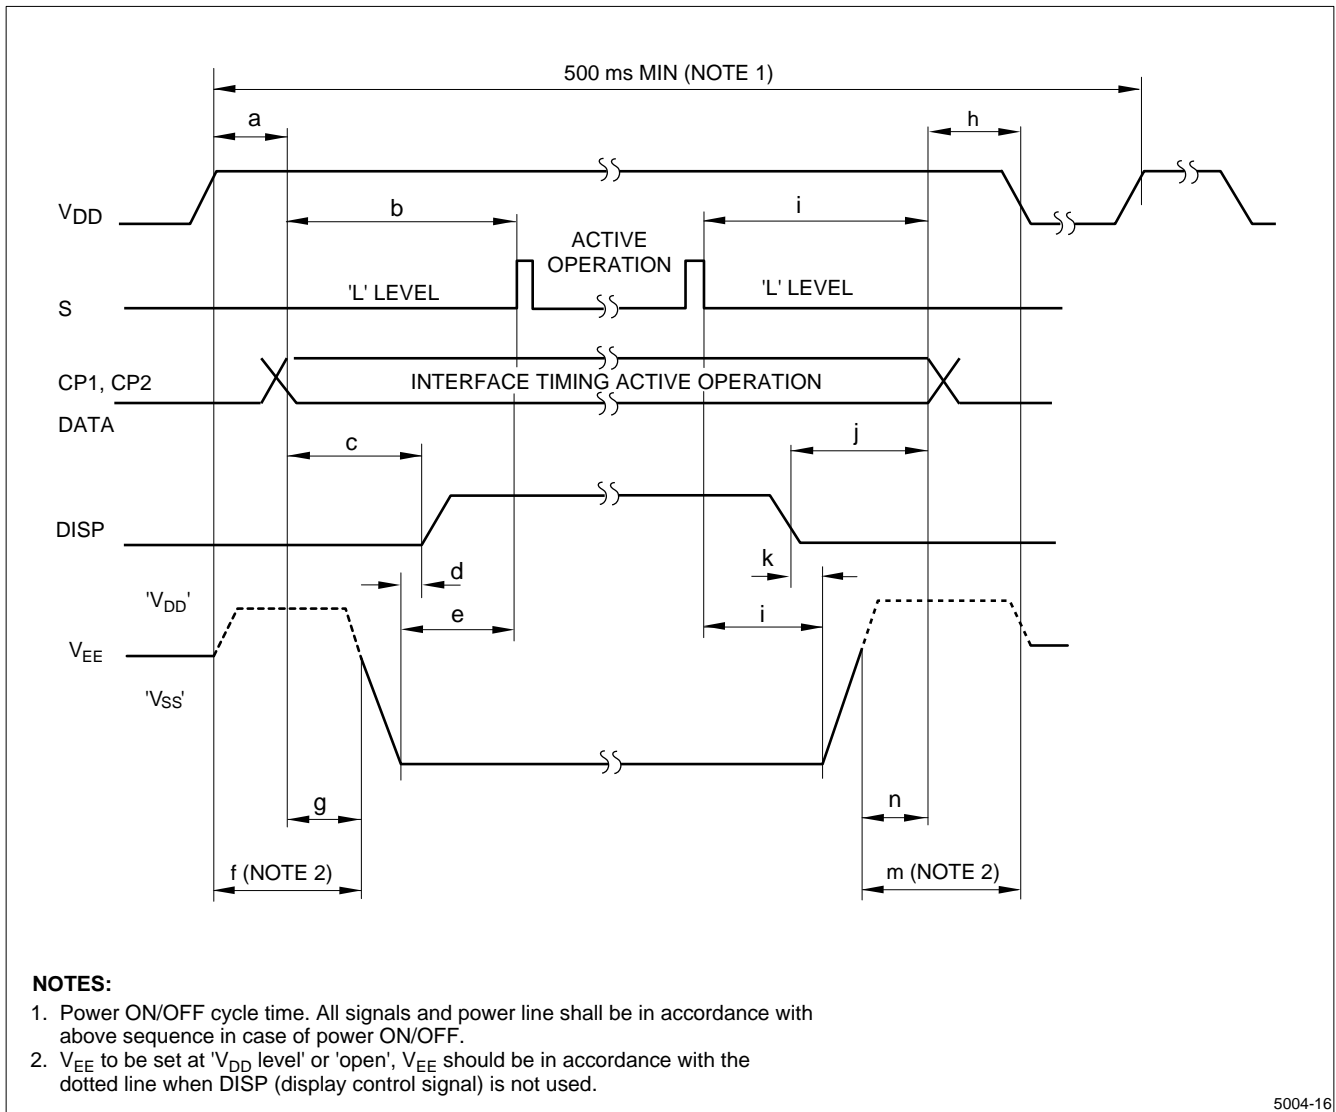

Figure 14. Supply Voltage Sequence Condition
- The unit should be driven according to the specified ratings to avoid malfunction or permanent damage. DC voltage drive leads to rapid deterioration of LC, so ensure that the drive is an alternating waveform by continuously applying the signal M. Avoid latch-up of driver LSIs and application of DC voltage to the LCD panel by following the ON/OFF sequence shown in Figure 14 and Table 1.
Refer to Figure 14 and Table 1.